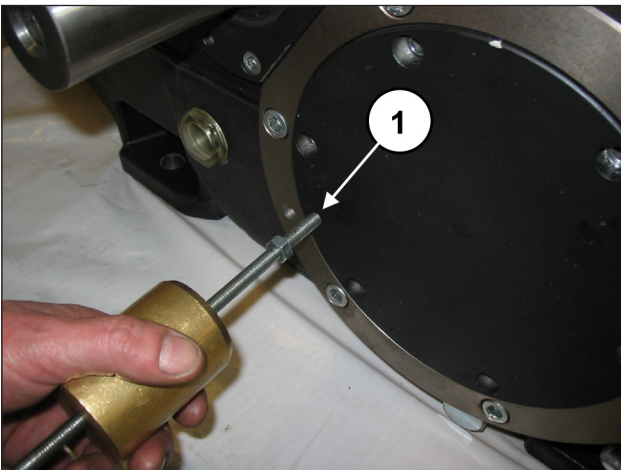

Fig. 12
To help with their removal, use 2 x M8 grub screws or screws (pos. ①, Fig. 12) as extractors.